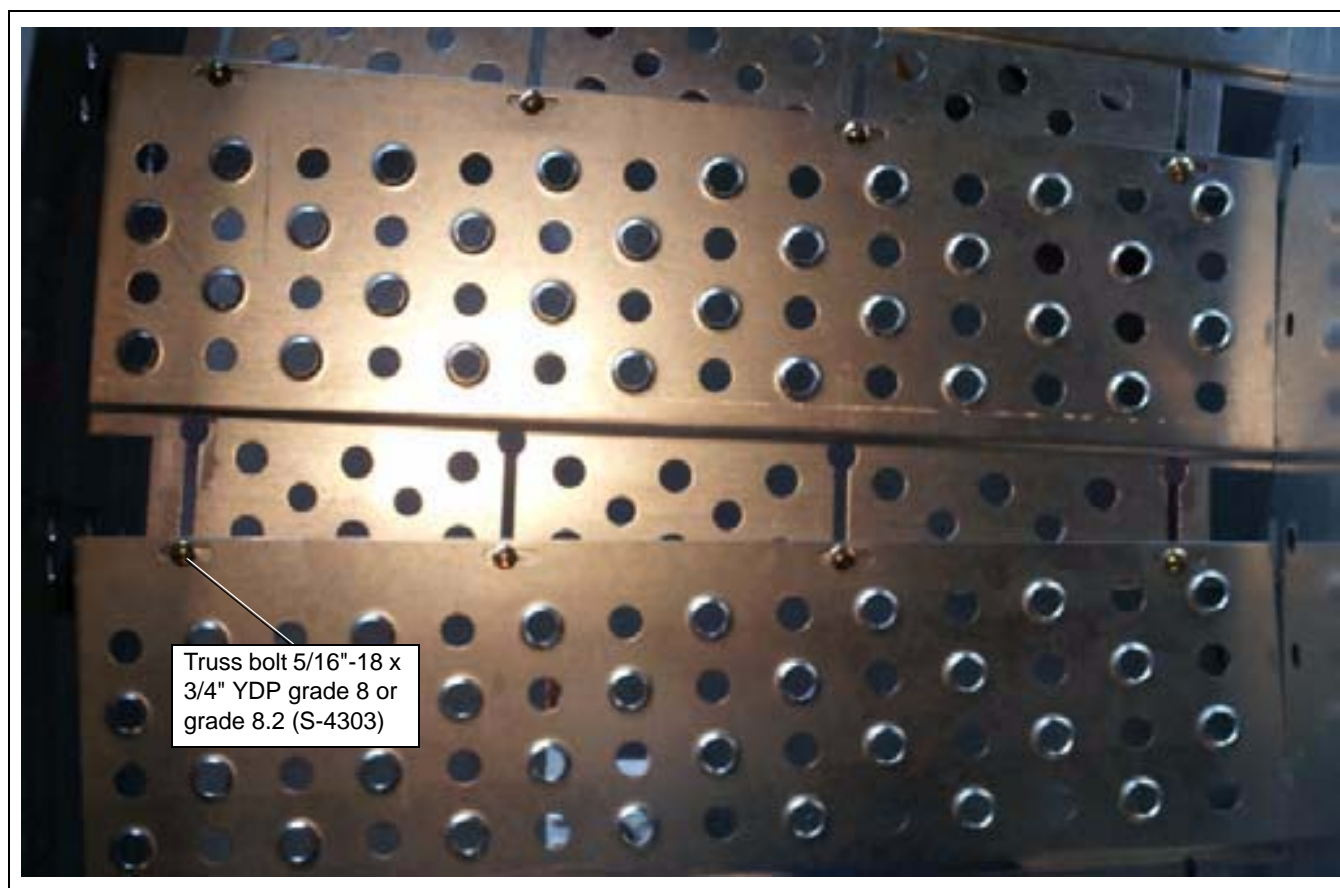

Figure 4N
- Each plank should be overlapped at the edges and bolted with 5/16"-18 x 3/4" YDP grade 8 or grade 8.2 bolts (S-4303) and 5/16"-18 YDP grade 2 nuts (S-3611). *(See Figure 4N.)*